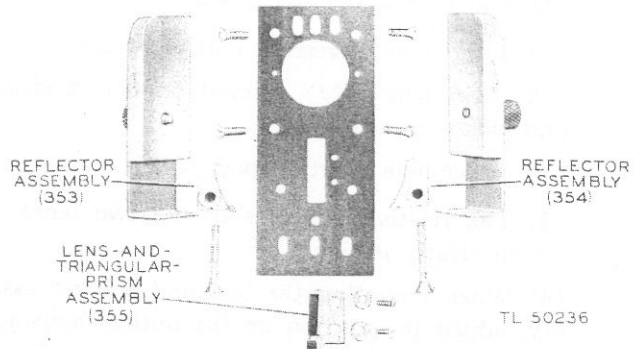

Figure 35—Optical system, partial (disassembled)
d. Lens-and-triangular-prism assembly. When mounting the lens-and-triangular-prism assembly (355), be sure that the prism is as nearly vertical as possible before tightening its mounting screws (fig. 35).
f. Reflectors. The two reflector assemblies (353 and 354) (fig. 35) must be adjusted to such an angle that a maximum amount of light is reflected from the tape to the photo-cell. When an oscillo-